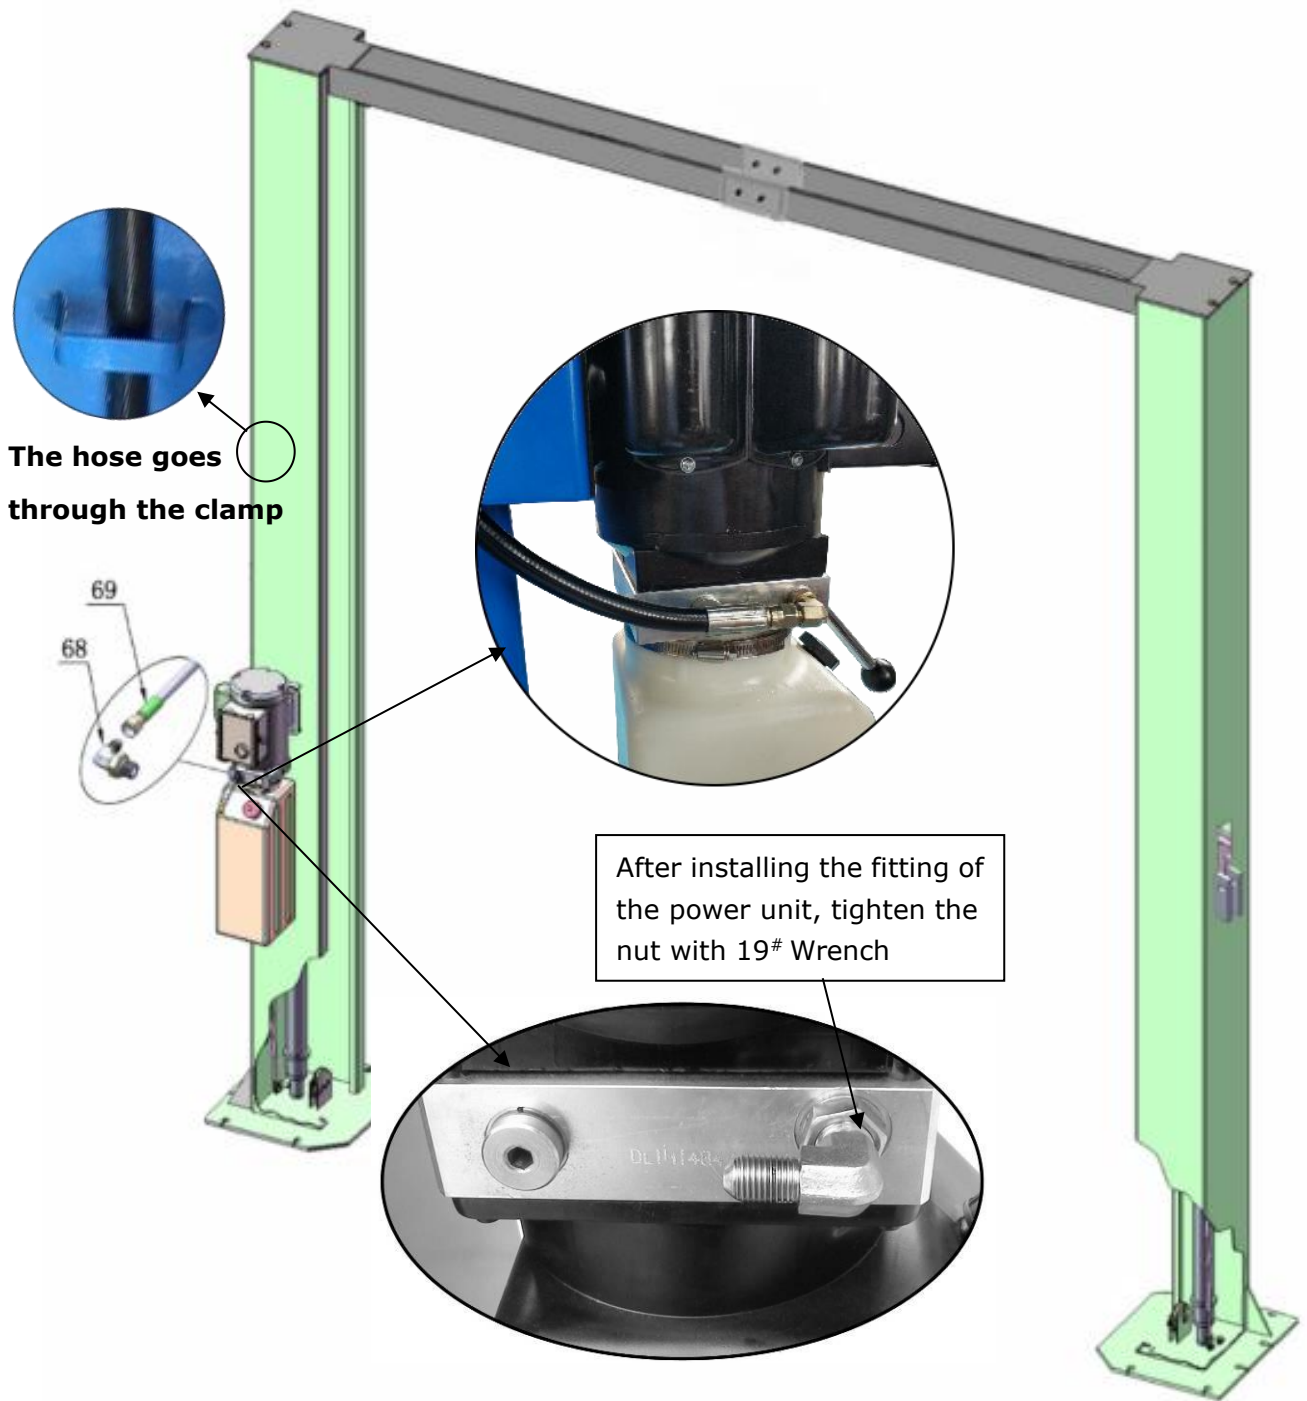

Fig. 21
L. Install power unit and oil hoses (See Fig. 21)